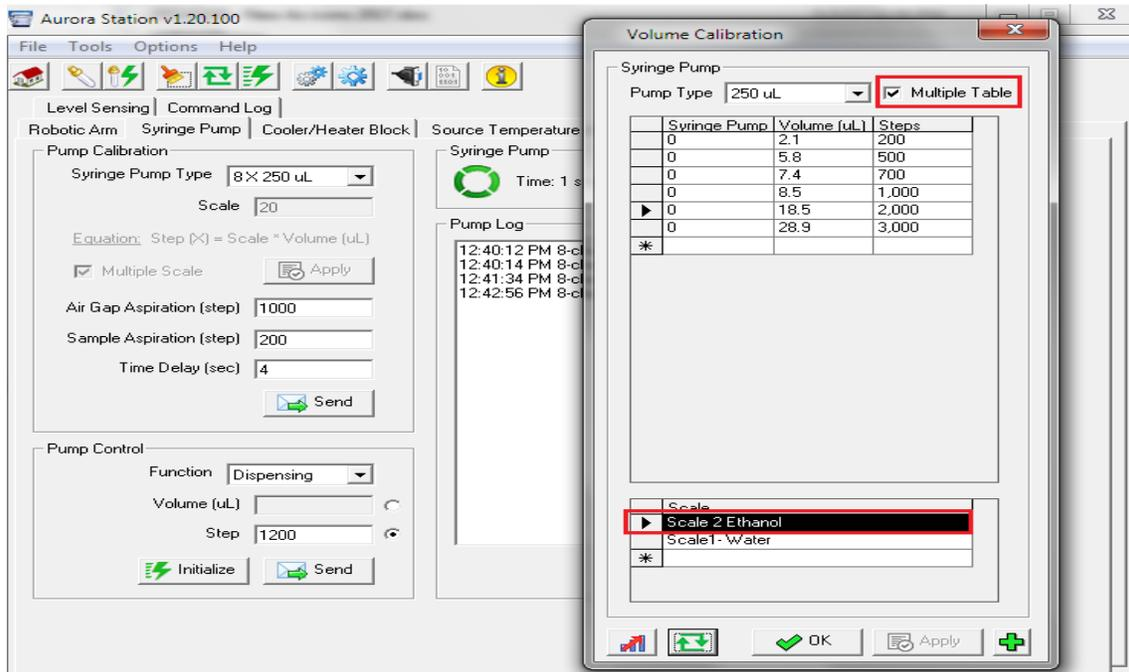
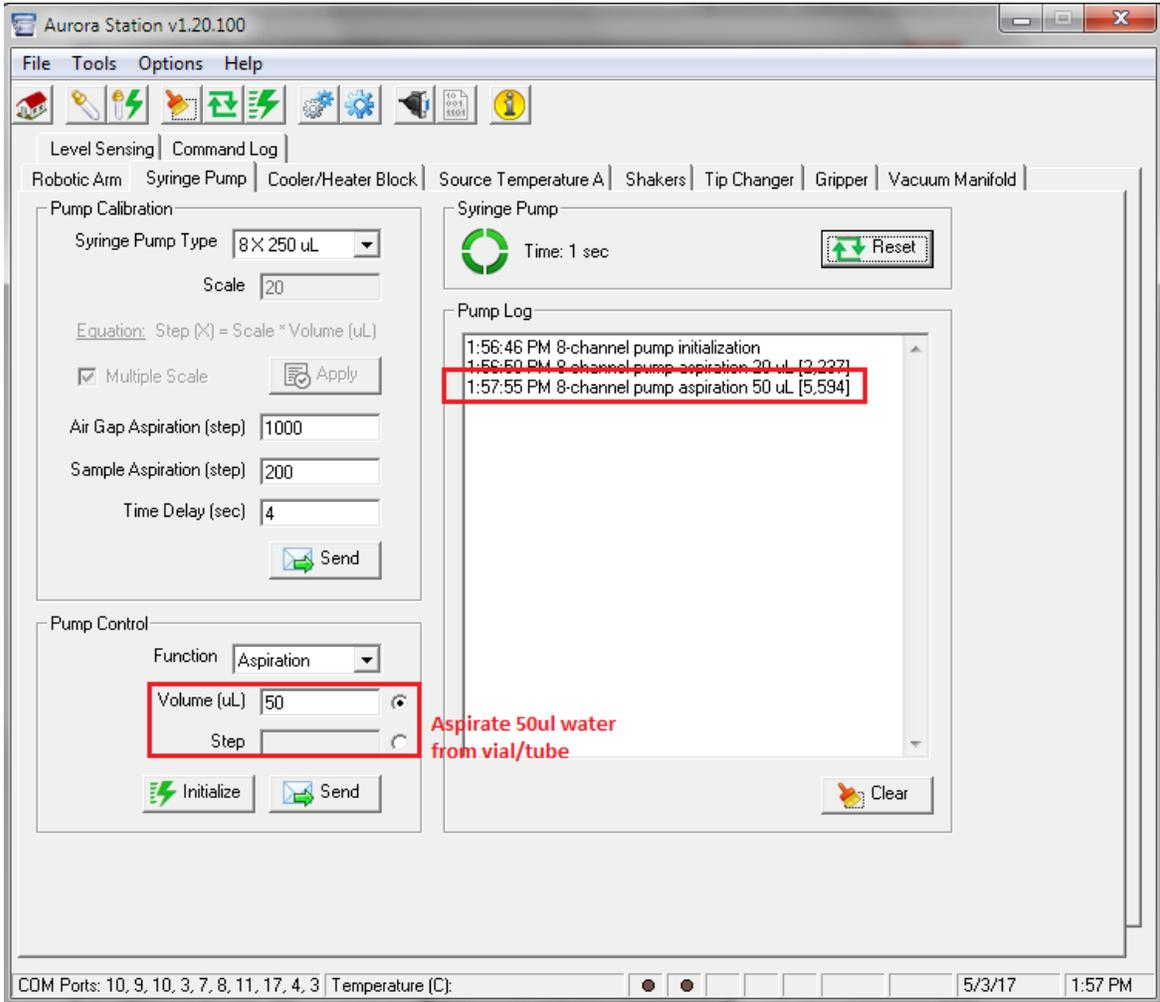

Figure 9-54 Multiple Table scale-2
Figure 9-56 Syringe Pump –Aspirate 50µL volume
Calibration data will be displayed according to the scale/table opened. Figure 9-56 Syringe Pump –Aspirate 50µL volume shows Scale 1 data & Figure 9-54 Multiple Table scale-2 shows data from another table. Depending upon the reagent being used, switch to the appropriate calibration table and then create sequences, VERSA will use the calibration data/steps from the selected table.
7. Enter a 50µL volume in the pump control, and click send (Again place a tube of distilled water below the barrel to aspirate the 50 µL volume). (Figure 9-56 Syringe Pump –Aspirate 50µL volume)